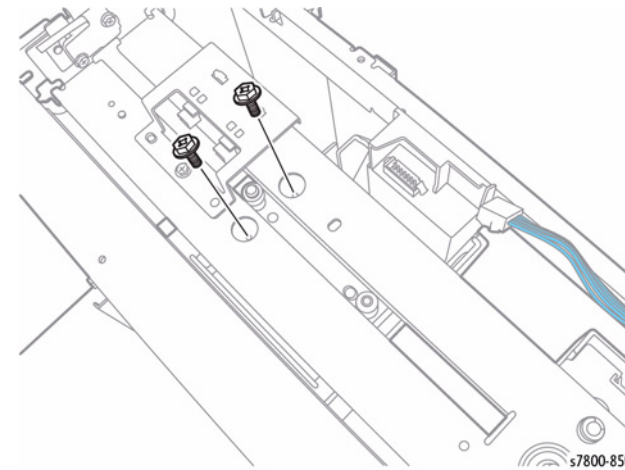

Figure 1 Removing screws
2. Move the screws that secure the Booklet Front Stapler Assembly until they are positioned under the holes of the Frame as shown in Figure 1 and Figure 2.